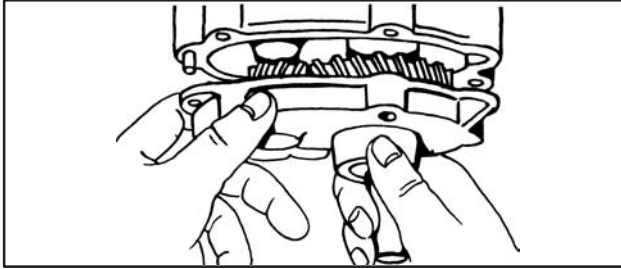

Fig. 121
- Mount gear case cover by inserting the intermediate gear shaft into gear. Then turn drive gear back and forth until gears mesh and push cover in place. Tap it lightly to get in on dowel pins, Fig. 121.